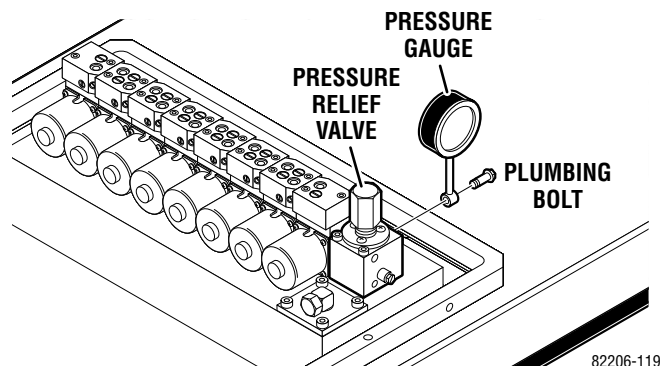

Figure 1-19.
1. Remove the plumbing bolt securing the brake system line to the pressure relief valve and attach a hydraulic pressure gauge to the main oil galley using a long 6mm plumbing bolt. See figure 1-19.
1. Attach the pressure gauge onto the main oil galley as shown in figure 1-19.